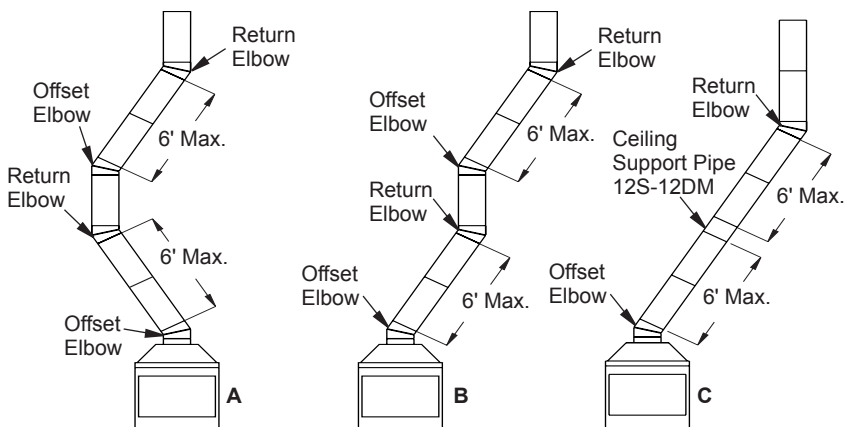

Figure 12 - Typical Offset Terminations
3. Maximum length of pipe between supports (return elbow or 12S-12DM) is 6' of angle run. Maximum of two 6' angle run sections per chimney system (see Figure 12, page 10).